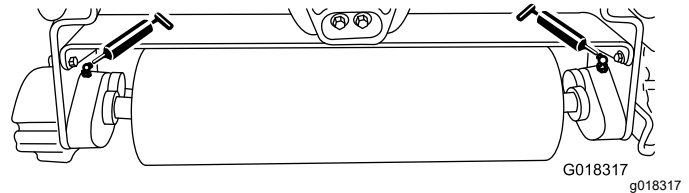

Figure 8
Lubricate the 2 grease fittings (Figure 8) on each tri-roller unit after every 15 hours of operation, with No. 2 lithium grease. Use a hand-operated grease gun for best results.
2. Apply grease to the tri-roller shaft bearings until you feel pressure (Figure 8).